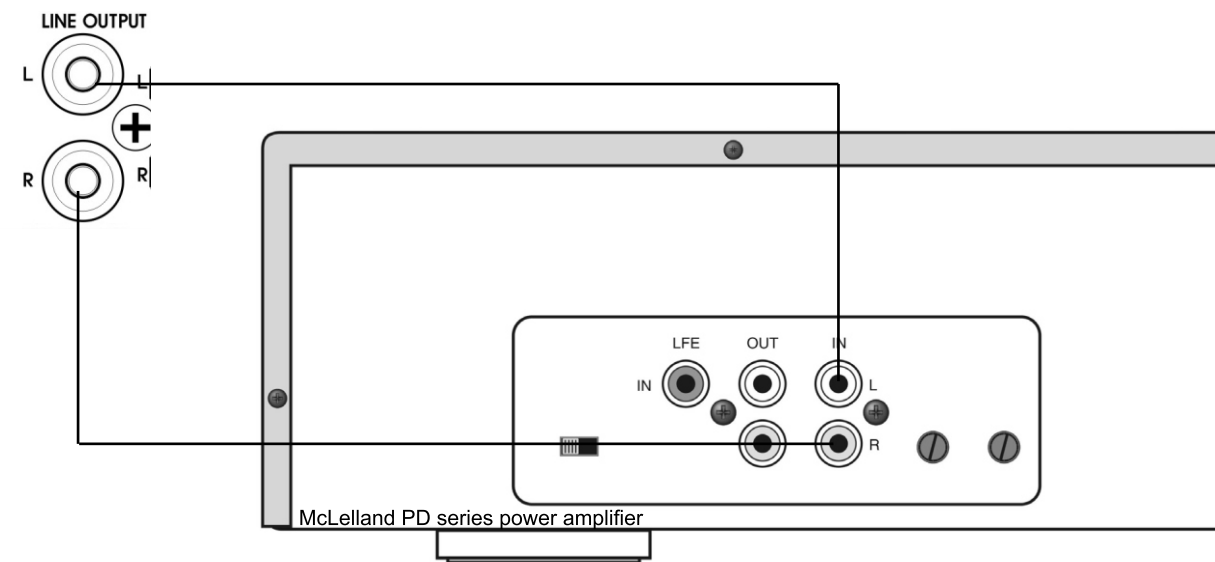

Figure 2: Speaker Connections
2. **Zone Speaker Output (1-8):** Use the included 4-conductor plug-in connector, (8 included) to connect speaker wires to the AVD-800P (see Figure 2)